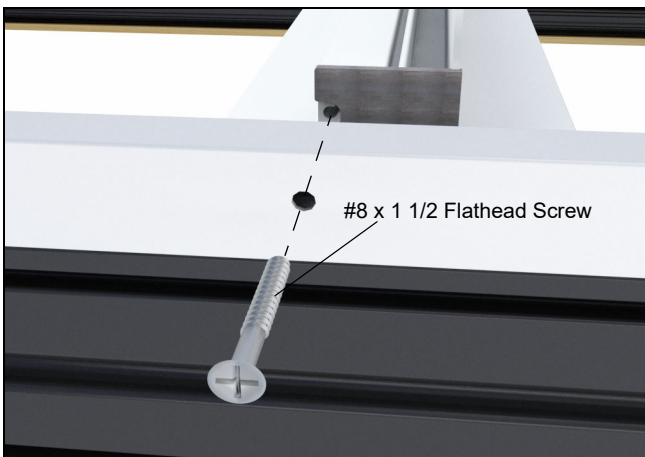

Figure 103
9. Ensure hole is lined up with screw boss in pocketing interlock. See figure 103.